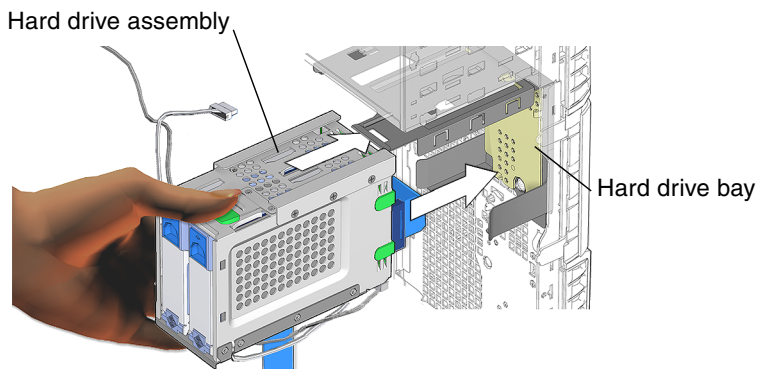

FIGURE 14-8 Installing the Hard Drive Assembly into the Hard Drive Bay
9. **Install the hard drive assembly into the hard drive bay (FIGURE 14-8)**
2. Locate where the SCSI backplane cables are to be installed (FIGURE 14-8).